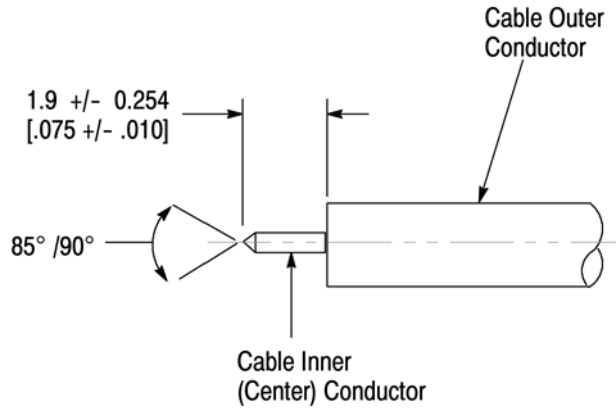

Figure 4
- a. Trim the center conductor to the length shown in Figure 4.
- b. File the blunt end of the center conductor to produce an 85° to 90° cone. See Figure 4.